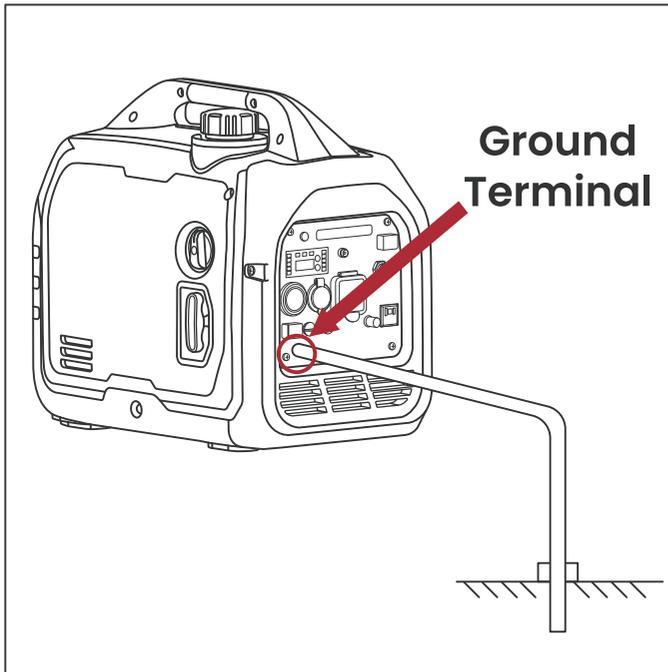

Fig.3
- 4 Connect the other end of the grounding wire reliable to the led wire of grounding body (see **Fig.3**).